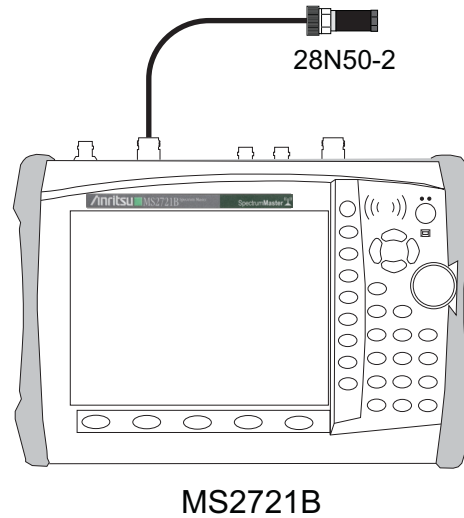

Figure 2-7. Spectrum Analyzer DANL Test Setup
1. Connect the 50 ohm termination to the Spectrum Analyzer RF In connector as shown in Figure 2-7.
7. Press the **Shift** key and then press the **Sweep** (3) key, then press the Detection soft key and then the Peak soft key.